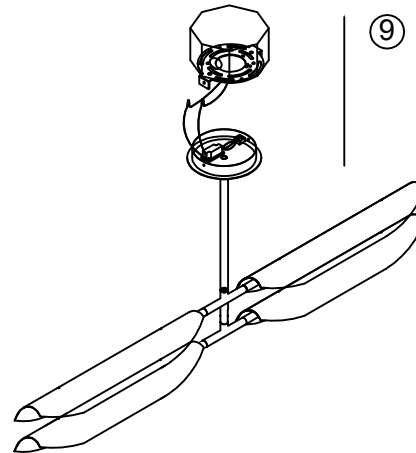

Fig.5
9. Place the fixture over the mounting bracket. Install the screws on the sides of the fixture to secure into the ceiling (Fig. 5)